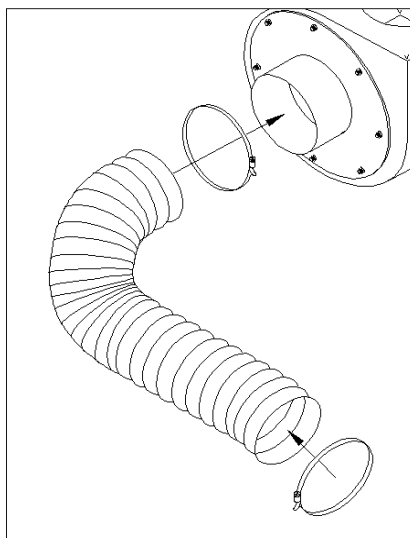

Fig. 8
8. Slip hose clamps over each end of intake hose (24). Attach to inlet (8) and tighten clamps. Fig. 8